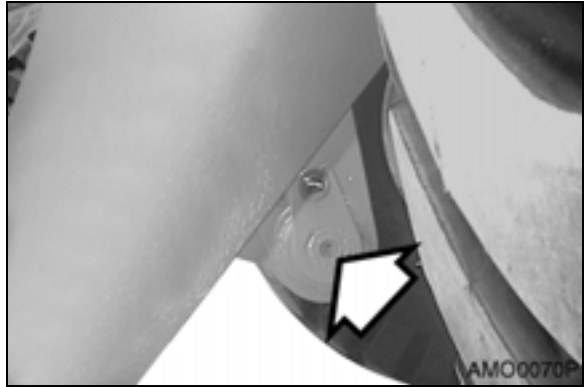

Figure 28
- Lever link connecting pin, 1 location (Figure 28).